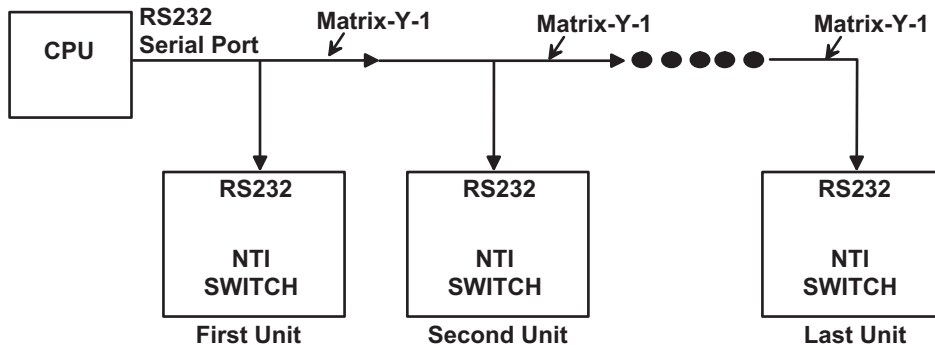
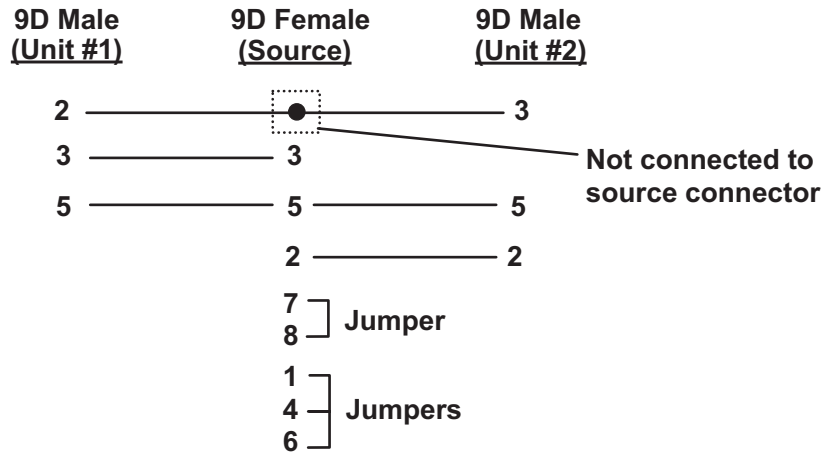

Figure 33- RS232 connection with Matrix-Y-1 cable
Figure 34- Pinout of Matrix-Y-1 cable
**Note: In order to connect multiple NODEMUX units together a Matrix-Y-1 cable must be used. (See Fig. 33.) See Fig. 34 for the pinout of the Matrix-Y-1 cable.**